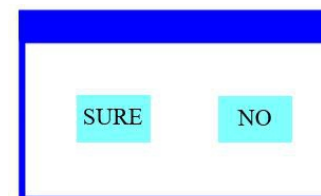

Figure 5 Dialog of confirm
- ☐ When the parameter is a key item, chick corresponding item, a dialog shown in Figure 5 will been popup ask for the confirm. Chick 'sure' to confirm.